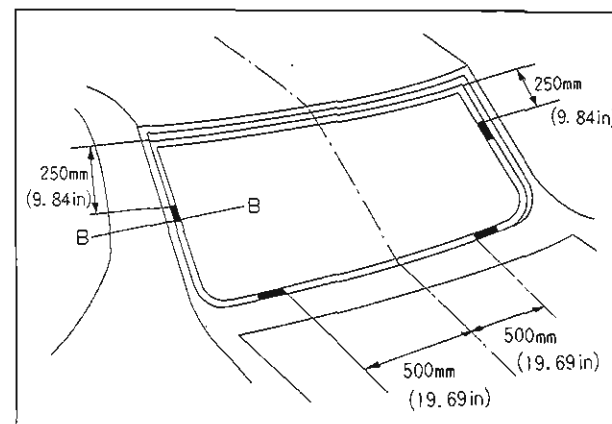

Fig. 14-35 Position of spacers
3. The directions and positions each spacer to be bonded are shown in Fig. 14-35.